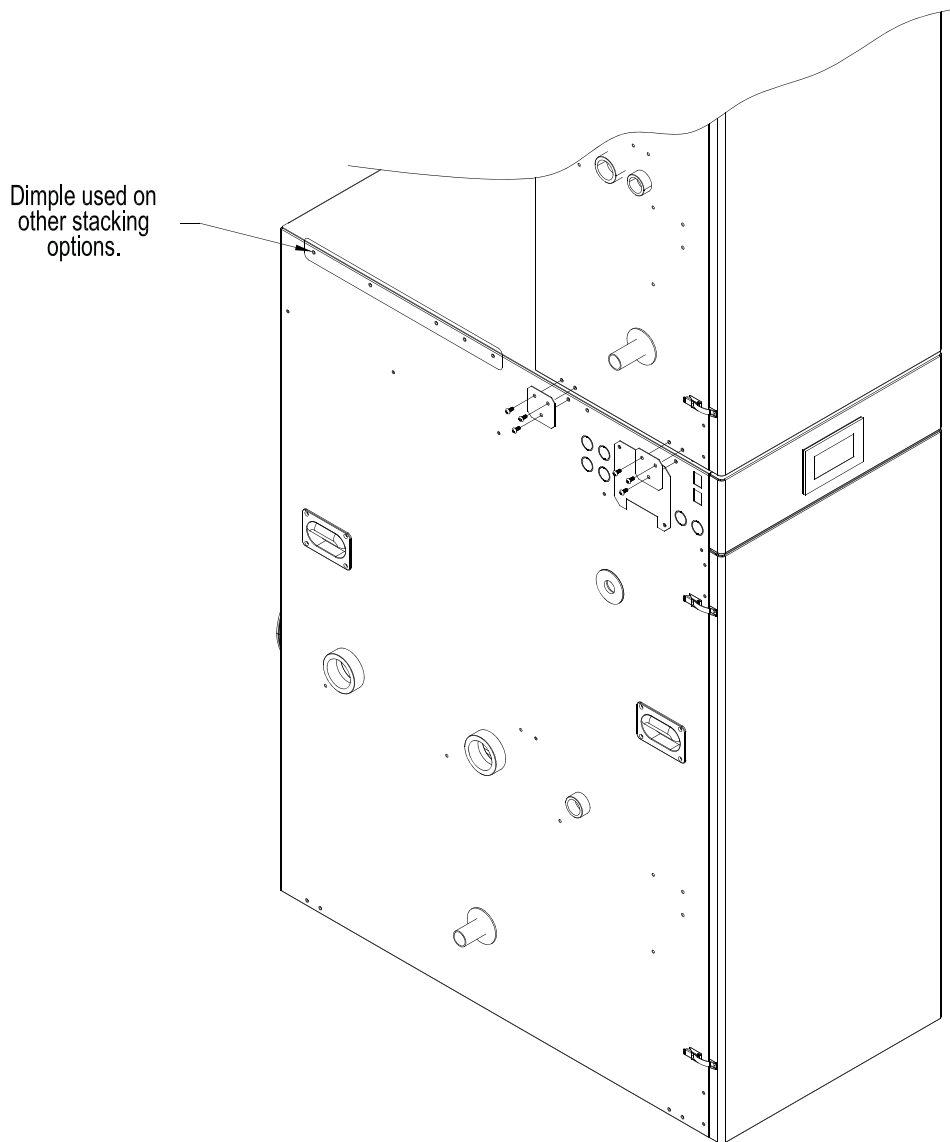

Figure 3: Stacking Boiler Attachment Bracket Placement
- Each Phantom boiler is factory packaged with two (2) Stacking Boiler Attachment Brackets (P/N 101679-01) and the bracket mounting hardware [six (6) self-drilling hex washer head plated #8 x 1/2” long screws]. Locate and remove the brackets and the hardware. The Stacking Boiler Attachments Bracket has three 7/32” diameter holes punched in a triangular pattern. See Figure 3 “Stacking Boiler Attachment Bracket Placement”.